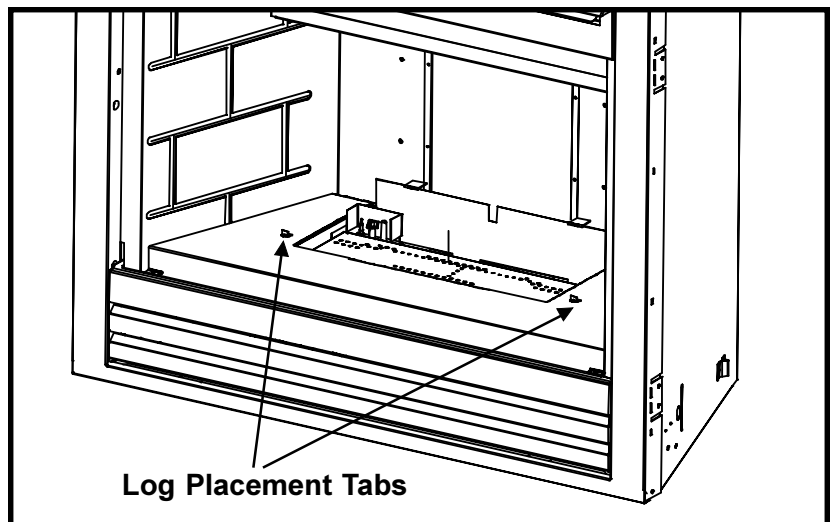

Figure 36
4. Remove the foam pad from the fireplace and discard. Make sure all pieces of the foam are removed. With a screwdriver bend up the log placement tabs (see Figure 36).